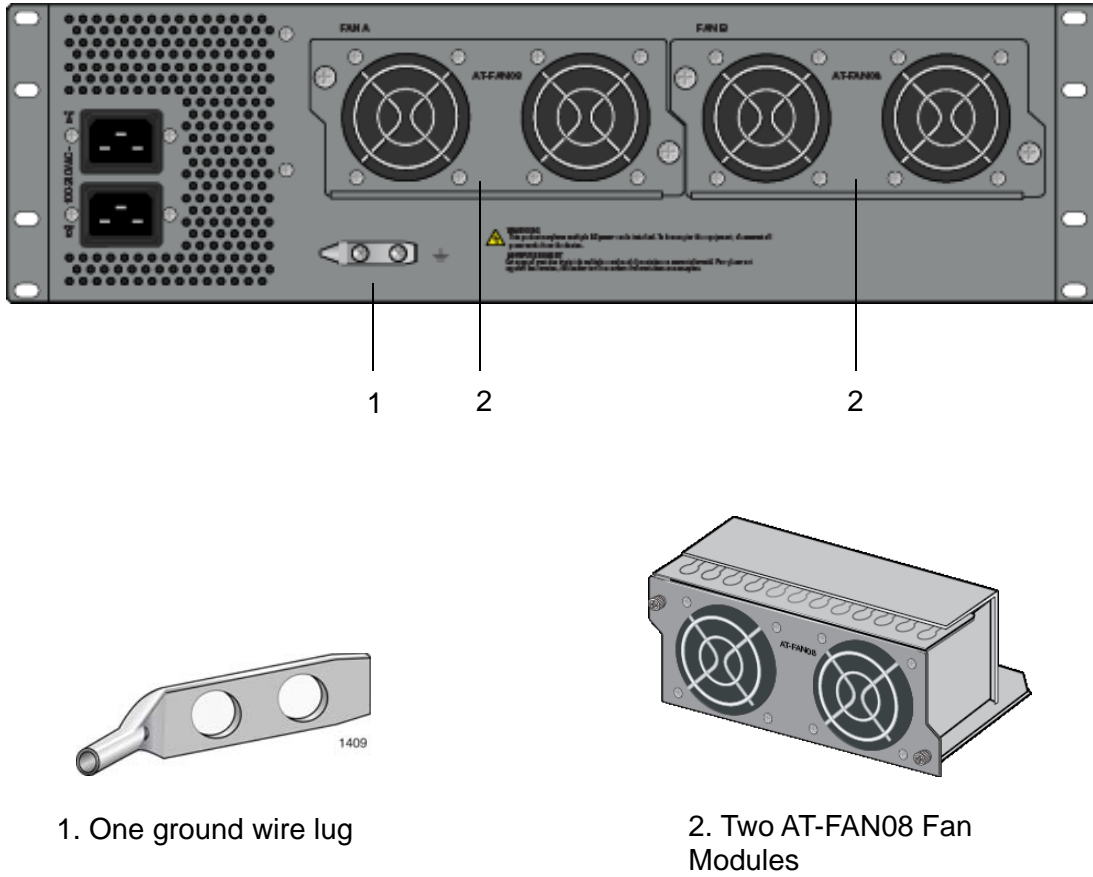

Figure 20. Pre-installed Items on the Rear Panel
4. Visually inspect the rear panel for the pre-installed components shown in Figure 20 on page 57.